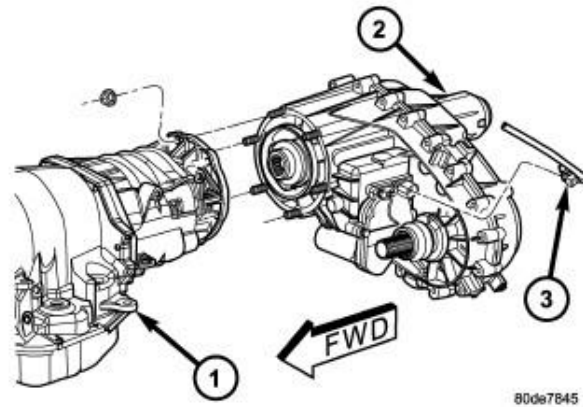

Figure 7 – Transfer Case
94. Install two bolts retaining the coolant reservoir to the body and tighten to 10 N·m (89 in. lbs.) (Figure 7).
17. Disconnect transfer case shift motor and mode sensor wire connectors (3) and the transfer case wiring harness retainers (Figure 7).
22. Remove nuts attaching transfer case (2) to transmission (1) (Figure 7).